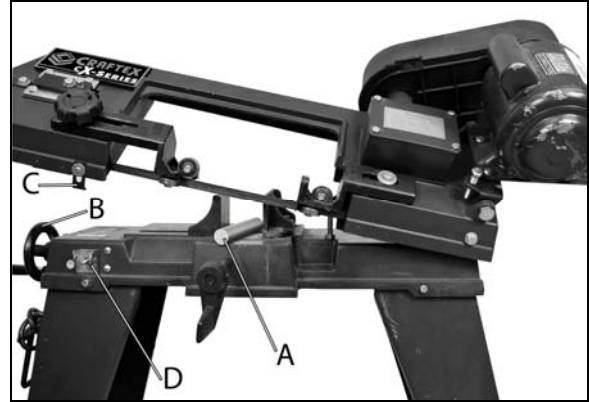

Figure 12
1. The work-piece (A) is placed between the vise jaws with the required amount to be cut off extending out past the blade. To tighten the work-piece in the vise, turn the hand-wheel (B). (See Fig.12)
2. This machine, if used in the horizontal position, will shut off automatically after the cut is finished. This is done when the metal stop (C) hits the switch (D), causing the machine to shut off.